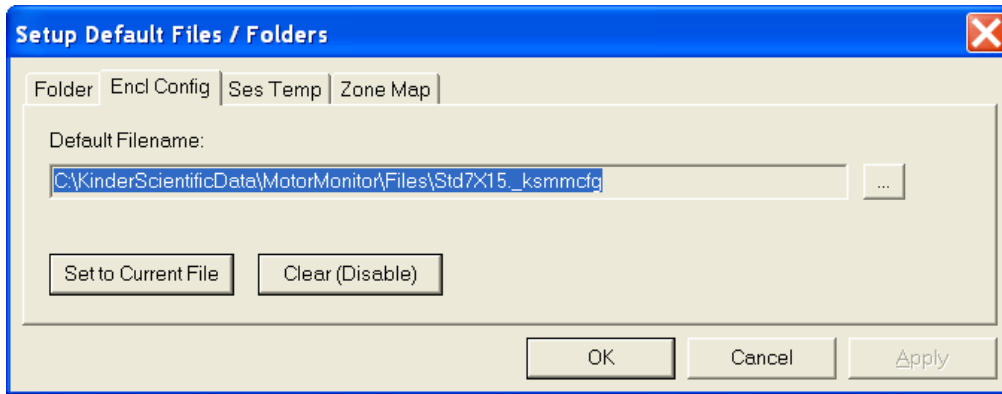

Figure 3-2. Encl Config Tab
3.2.3.4 Encl Config Tab - Default Configuration File This file is normally set when your system is installed and never changed (Figure 3-2). The only reason to change this default is if you purchase an option later that would require a change to the configuration file or if you are running two different activity systems on the same computer. Please contact the factory before changing anything in this file.